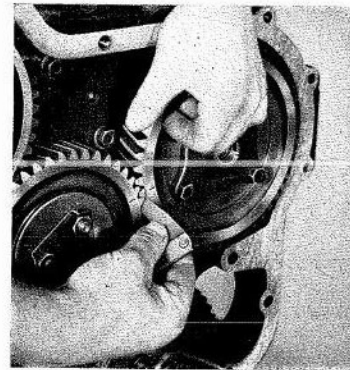

Fig. M.3.
2. Check the back-lash between the gears as seen in Fig. M.3 using a feeler gauge. The back-lash should be between 0.003 in. and 0.006 in. (0.076 mm to 0.152 mm).